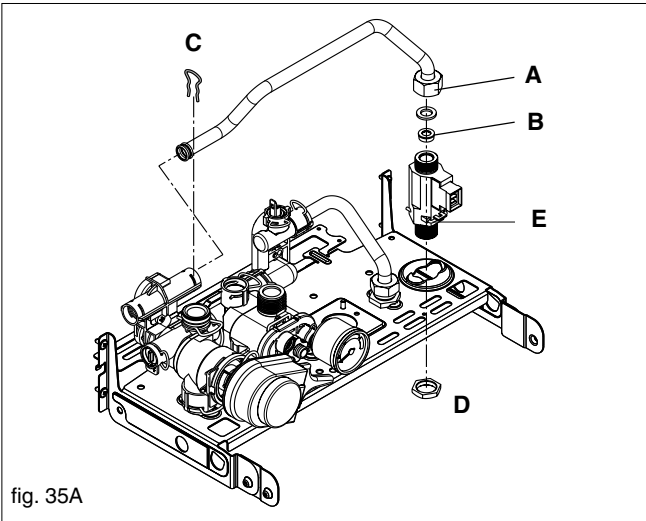

fig. 35A
6.20.1 DHW FLOW RESTRICTOR (Fig. 35A)
6.20.2 DHW FLOW SWITCH (Fig. 35A)